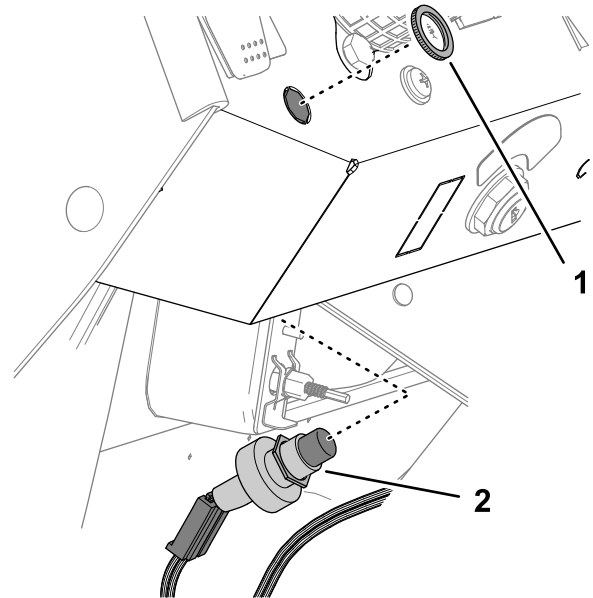

Figure 9
5. From the bottom of the panel, insert the switch through the hole (Figure 9).
6. If needed, adjust the jam nut to position so that you expose enough threads of the horn switch to install the knurled nut (Figure 9).
7. Secure the horn switch to the dash panel with the knurled nut (Figure 9).